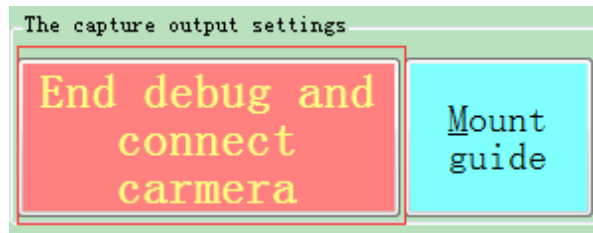

Figure 3.22: output setting of radar control camera to snapshot
- (k). The radar target display runs well, it means no display omission (no lane display error or other error), estimated by observing the target display in target simulation interface. Choose the snapshot lane, in the output setting column which is used for controlling camera snapshot, then click “debug finished , connect to camera” button, then radar is ready for triggering camera to snapshot, as shown in figure 3.22.